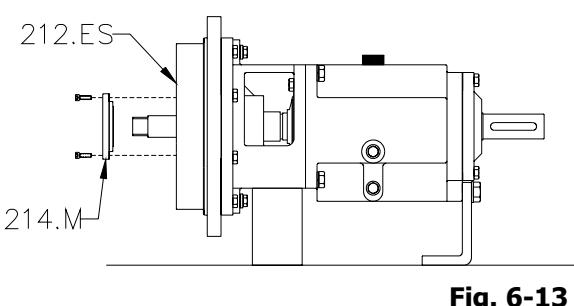

Fig. 6-13
1. Remove all end ring bolts and lift off end ring for mechanical sealing (214.M) assembly from stuffing box cover (212.ES) (Fig. 6-13).